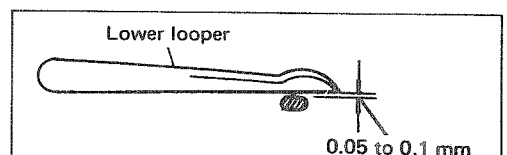

Fig. 6
d) Clearance of the lower looper blade at the needle (Fig. 6).